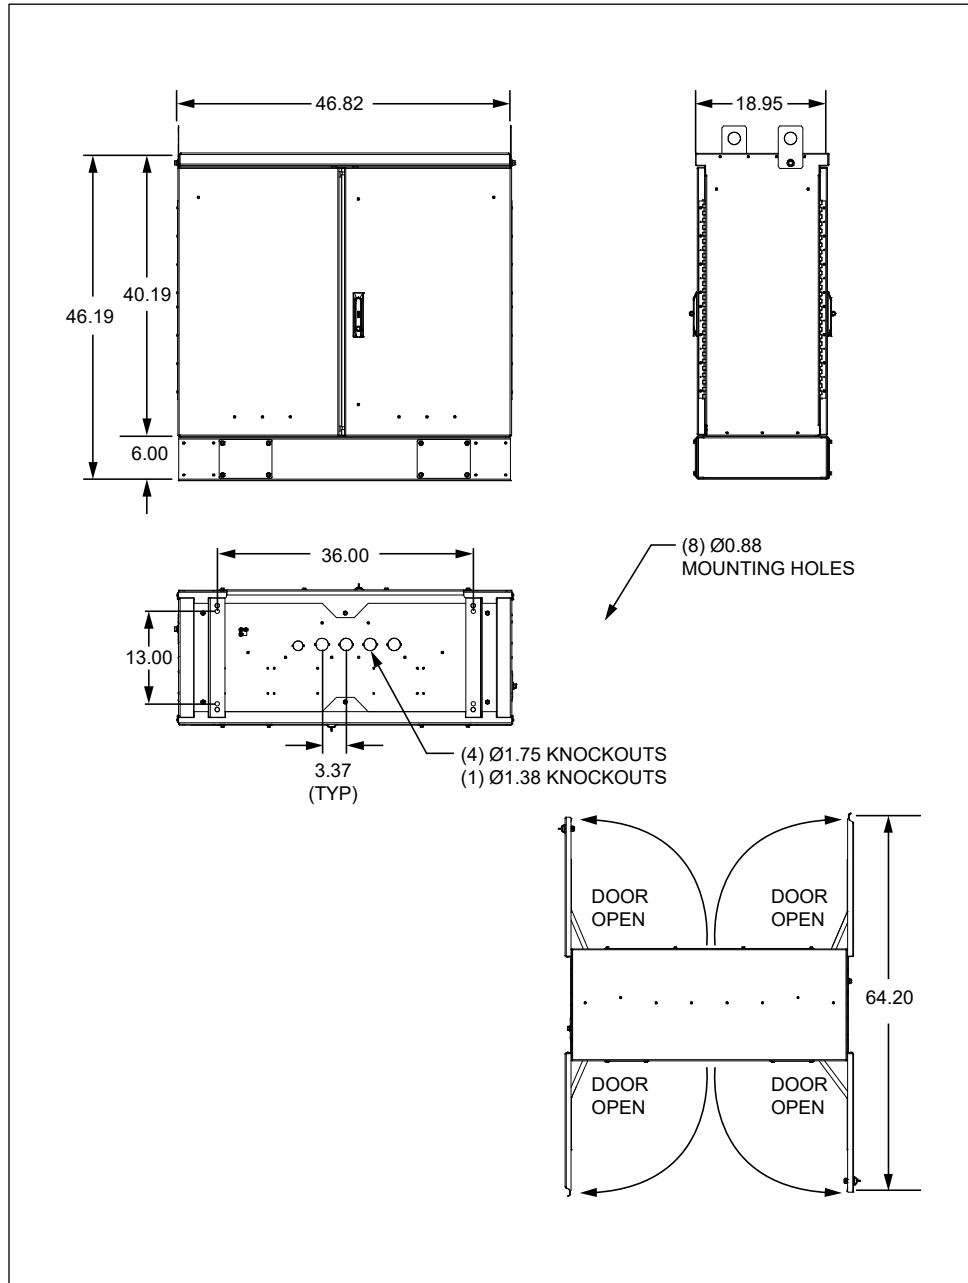
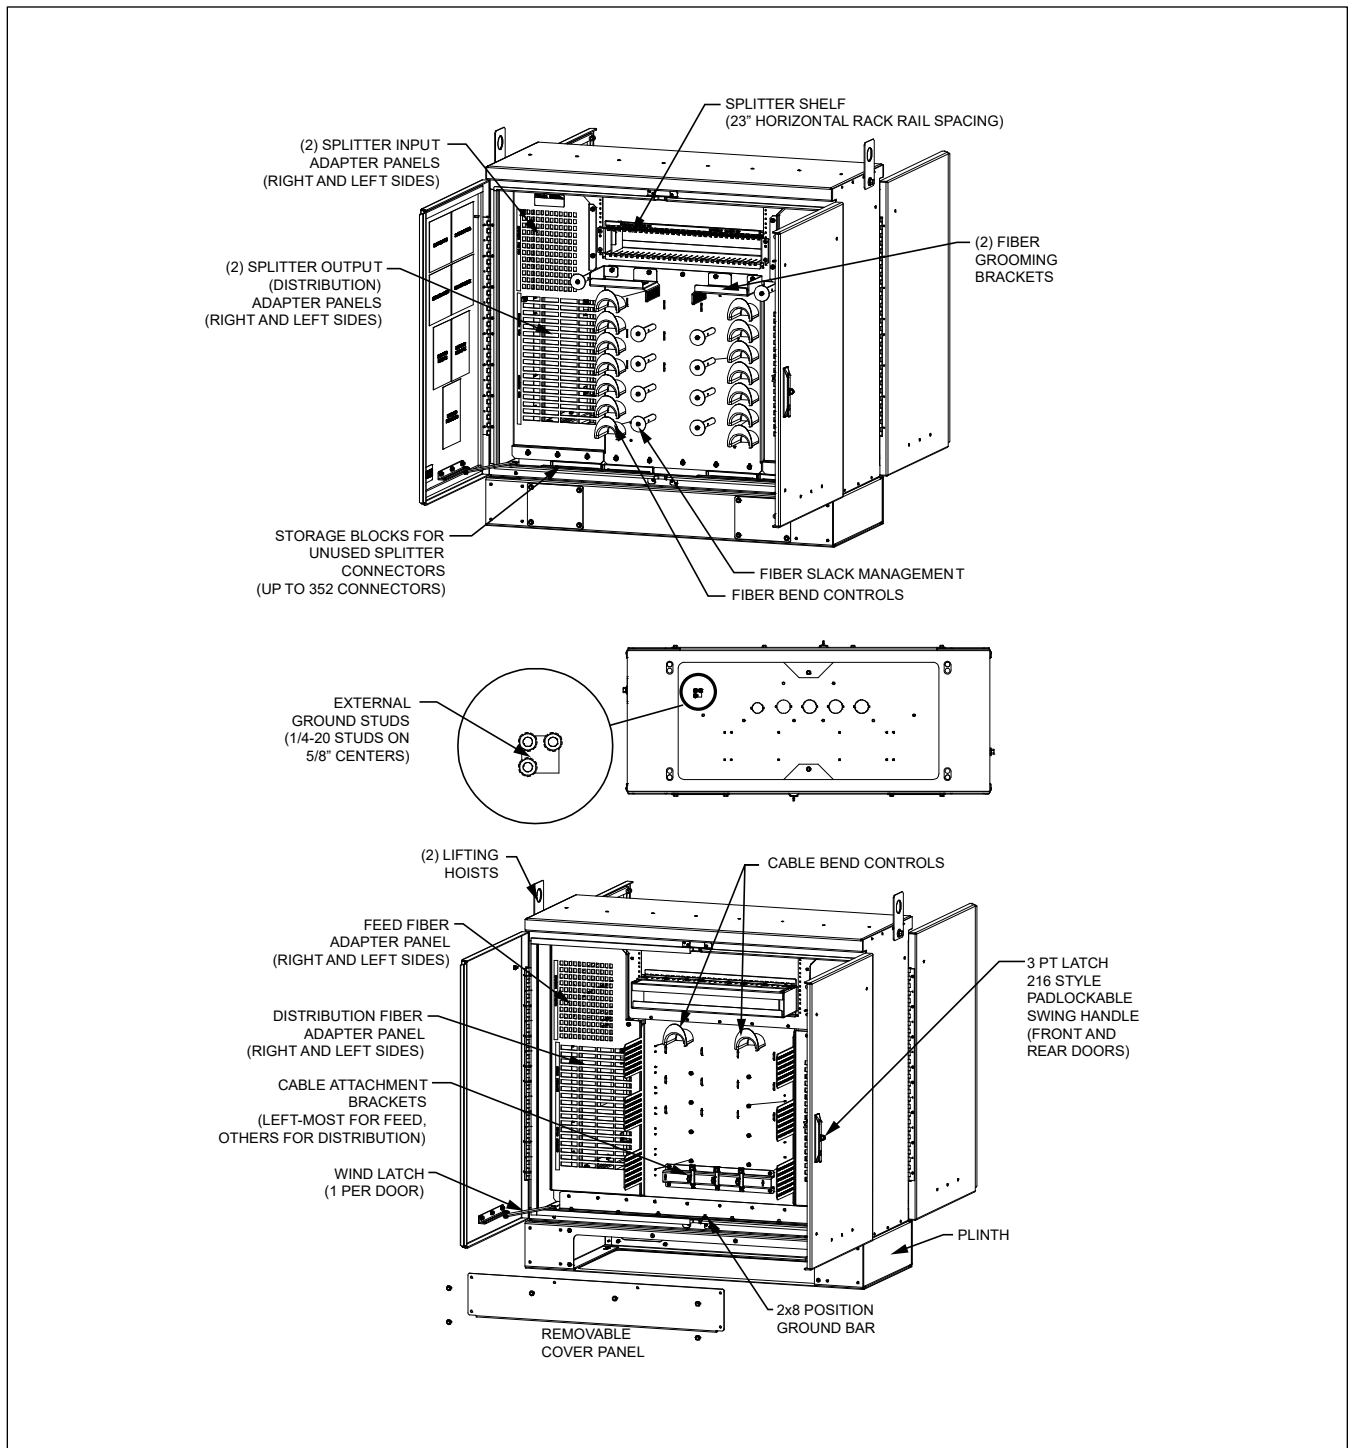

Figure 2 OHC Dimensions (in inches)
Figure 3 OHC Components
Figure 2 shows the OHC dimensions. Figure 3 shows the main components of the OHC.
- Figure 2 shows the required conduit openings and mounting hole dimensions for entering/mounting the bottom of the OHC. Use these dimensions when designing the pad.